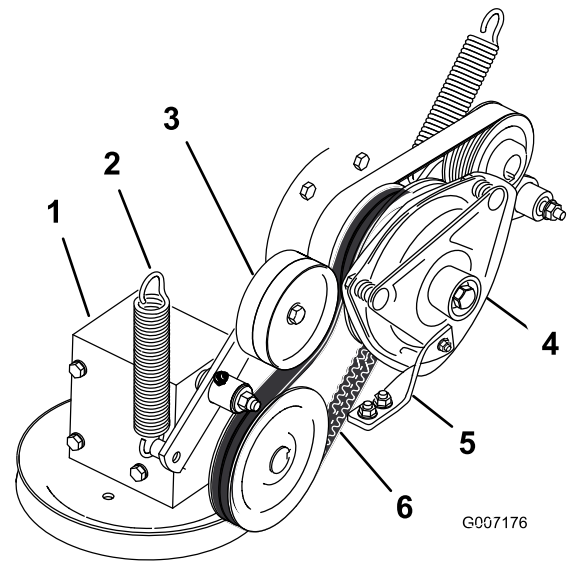

Figure 73
4. Remove the spring from the idler arm (Figure 73).
7. Install the PTO drive belt around the clutch pulley and the gearbox pulley (Figure 73).
9. Install the spring to the idler arm (Figure 73).